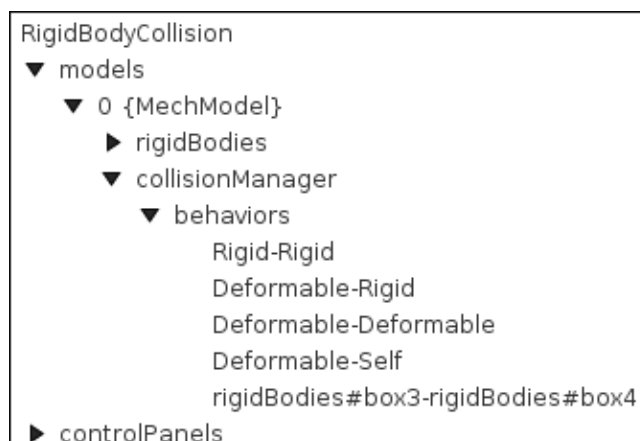

Figure 79: Expanded navigation panel showing the collision manager and individual behavior components for a MechModel.
- For more fine-grained control, one may also use the navigation panel to select one or more of the behavior components located under the collision manager (see Figure 79). The first four of these control the default behaviors. Other behaviors, if any, are overrides that have been added either by application code, or through the GUI. Once selected, one can choose “Edit properties ...” or “Edit render props ...” from the right context menu to edit their properties. In the case of override behaviors, the context menu can also be used to remove them.